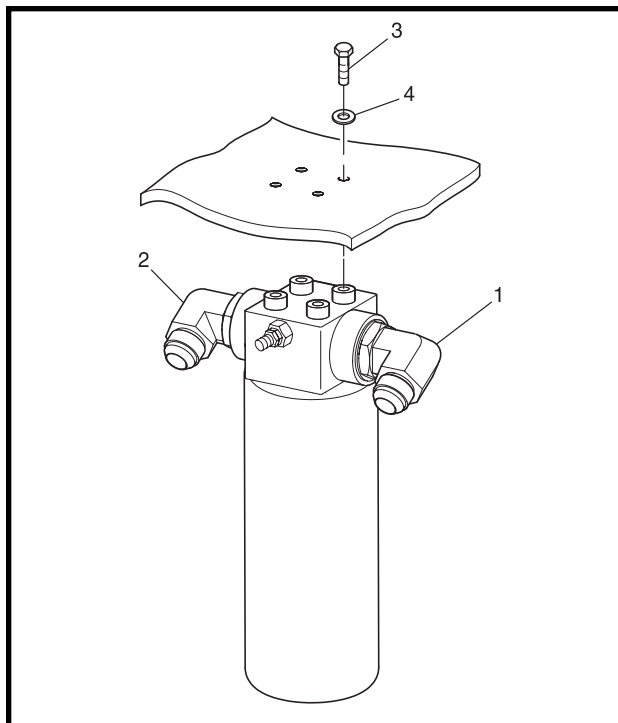

FIGURE 13-2. ROTOR CHARGE FILTER ASSEMBLY.
REMOVAL [See Figure 13-2].
2. Place a container under the Filter Assembly (Figure 13-2) to catch any oil when the hydraulic lines are disconnected.
3. Disconnect and label the two hydraulic lines from Ports “D” and “E” on the top of the Rotor Pump Assembly connected to fittings (1) and (2), for the filter to be replaced.
4. Remove the four capscrews (3), and four washers (4) attaching the Filter Assembly to the frame and remove the Filter Assembly.
INSTALLATION [See Figure 13-2].
1. Install fittings (Figure 13-2 – 1 and 2) on filter being sure not to damage the O-rings. Position fitting (1) to point 30° down and position fitting (2) to point 45° down.
3. Apply threadlock 242 to the four capscrews (3).
4. Secure Filter Assembly to frame with the four capscrews (3) and four washers (4).
5. Torque capscrews (3) to 44 ft•lbs (59.7 N•m).